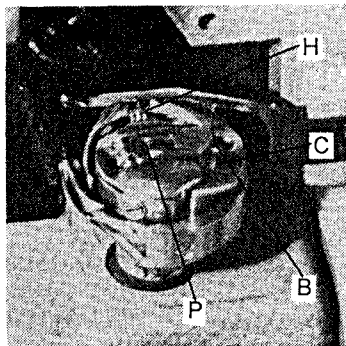

Fig. 6
THE THREAD TAKE UP SPRING "K" (FIG. 6) SHOULD BE SET SO THAT WHEN THE EYE OF THE NEEDLE REACHES THE GOODS ON THE DOWNWARD STROKE OF THE NEEDLE BAR, THE SPRING WILL HAVE COMPLETED ITS ACTION AND WILL REST AGAINST THE STOP ON THE THREAD TAKE UP SPRING REGULATOR.
IF THE THREAD TAKE UP SPRING IS NOT SET AS OUTLINED ABOVE, LOOSEN SET SCREW "L" (FIG. 6) AND TURN TENSION STUD "M" TO THE LEFT FOR REDUCED MOVEMENT OF THE SPRING OR TO THE RIGHT FOR MORE MOVEMENT. AFTER THE TAKE UP SPRING IS SET CORRECTLY, TIGHTEN SET SCREW "L".
3. LEAD THREAD END THROUGH GUIDE HOLD (H) FIG. 6, LOCATED AT FRONT OF BOBBIN CASE ABOVE HINGED LATCH.